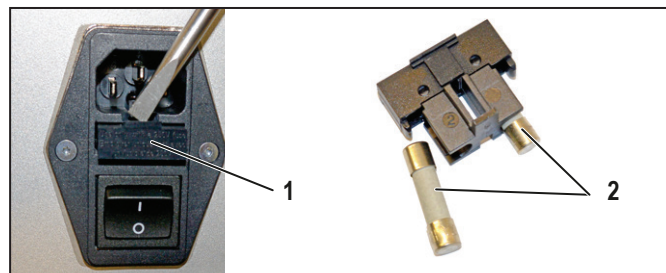

Figure 8.3 Fuses
- ▶ Lever the fuse compartment (Figure 8.3, 1) out of the mains filter unit with a flat-blade screwdriver.
- ▶ Replace both fuses (Figure 8.3, 2) with new ones (2 x T2AH250V).